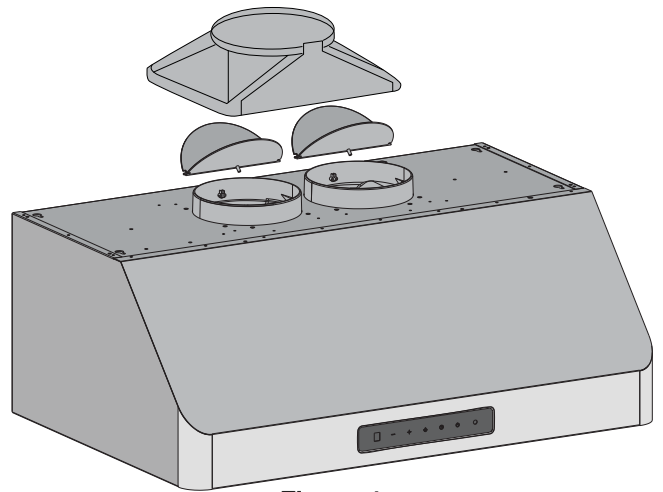

Figure 1
- Fix the damper flaps on top of the range hood (see figure 1).